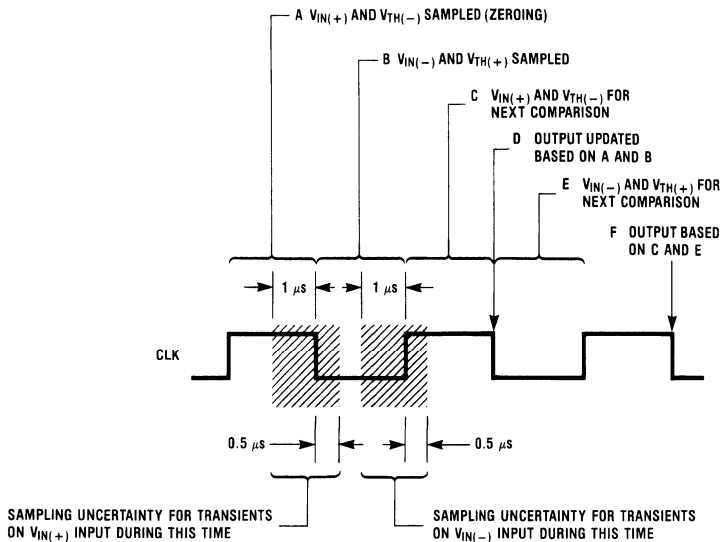

FIGURE 5. Analog Input Timing
**Note 11:** With  $\overline{\text{CS}}$  low and programming complete, D0 is updated on each falling CLK edge. However, each new output is based on the comparison completed 0.5 clock cycles prior (see Figure 5).
The input phases of the comparator relate to the device clock (CLK) as shown in *Figure 5*. Because the comparator is a sampling device, its response characteristics are somewhat different from those of linear comparators. The  $V_{IN}(+)$  input is sampled first (CLK high) followed by  $V_{IN}(-)$  (CLK low). The output responds to those inputs, one half cycle later, on CLK's falling edge.
The sampled inputs also affect the device's response to pulsed signals. As shown in the shaded areas in *Figure 5*, pulses that rise and/or fall near the latter part of a CLK half-cycle may be ignored.
be done indefinitely, without reprogramming the device, as long as  $\overline{CS}$  remains low. Each new comparator decision will be shifted to the output on the falling edge of the clock. However, the output will, in effect, "lag" the analog input by 0.5 to 1.5 clock cycles because of the time required to make the comparison and latch the output (see Figure 5).
The differential input of the comparator actually reduces the effect of common-mode input noise, i.e. signals common to both selected "+" and "-" inputs such as 60 Hz line noise. The time interval between sampling the "+" input and then the "-" input is  $\frac{1}{2}$  of a clock period (see *Figure 5*).
Due to the sampling nature of the analog inputs, short spikes of current enter the "+" input and leave the "-" at the clock edges during a comparison. These currents decay rapidly and do not cause errors as the comparator is strobed at the end of the clock period (see *Figure 5*).